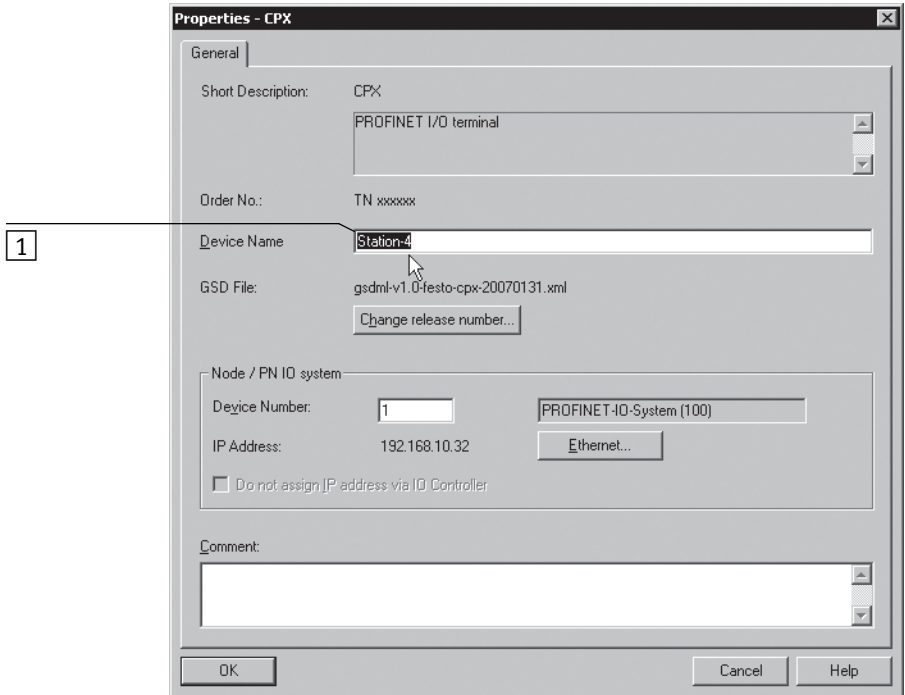

Fig. 2/4: CPX terminal characteristics – device name
7. Enter a unique device name for the CPX terminal in the “Device Name” field (1 in Fig. 2/4) or “Name” (1 in Fig. 2/5), e.g. CPX-01, Station-xy or an application-specific designation.